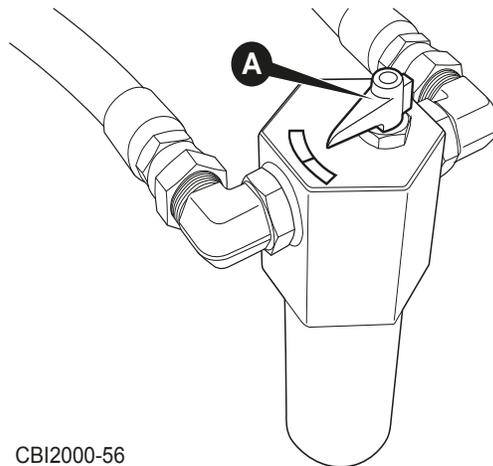

Figure 6.55 - Reset Filter Dial if Necessary
2. Reset Dial - Occasionally the inrush of hydraulic pressure at startup will cause a false restriction reading in the dial on the top of the filter housing (Figure 6.55 / A). Reset the dial by rotating it as far as it will easily go towards the green side of the scale.
3. Inspect Indicator - Inspect the dial on the top of the filter housing (Figure 6.55 / A). If the dial is pointing to the green side of the scale, the filter is fine. If the dial is in the red, the filter needs to be replaced.